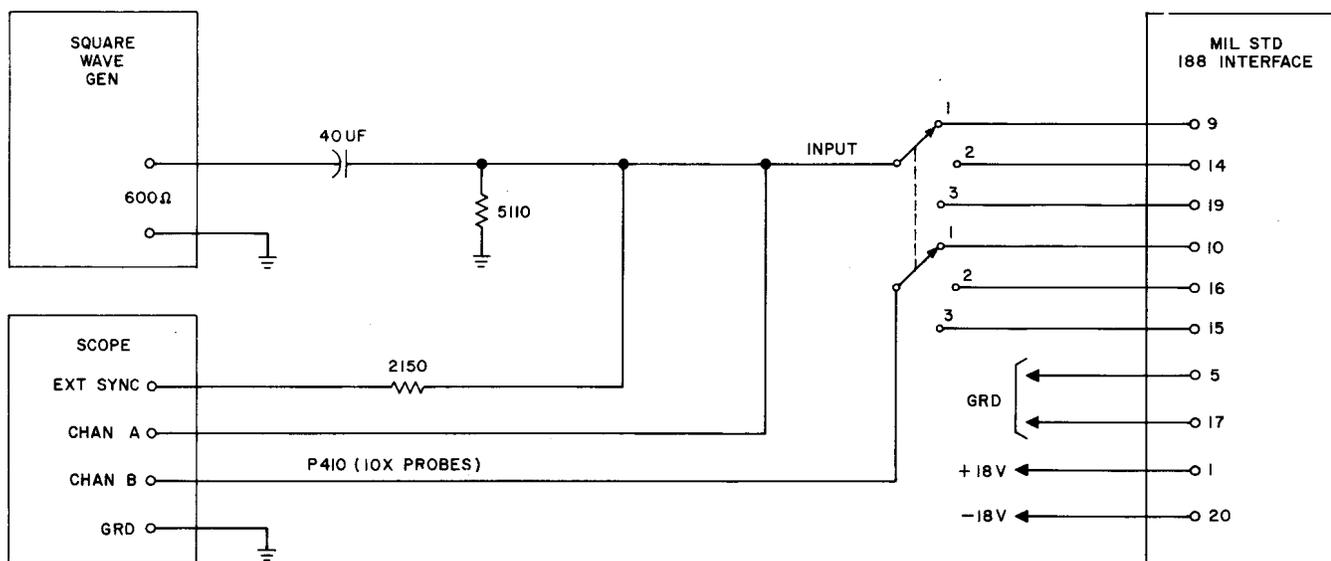

Fig. 58A — MIL. STD 188B Interface Test Circuit
(1) With the circuit pack connected to the suggested test circuit shown in Fig. 58A, connect +18.0 (± 0.5) Vdc to terminal 1, -18.0